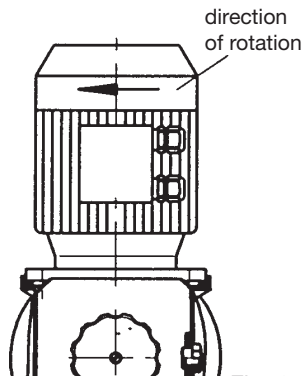

Fig. 15
- **When connecting the motor, make sure that it rotates in the correct direction** (see Fig. 15 on the left side).